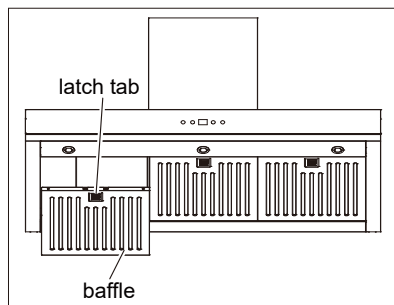

Fig 7
1. Install the baffles back to the range hood to finish the installation. (Fig 7)